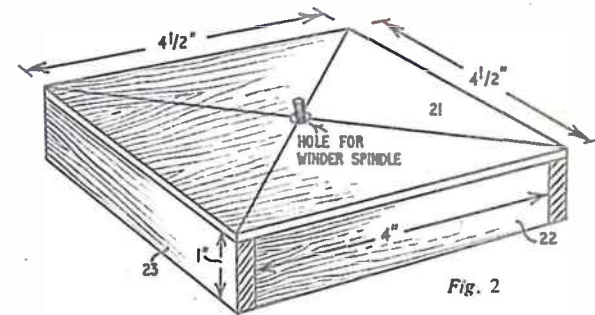

Fig. 2
The box in which the musical movement is contained is made up from five pieces of wood (Fig. 2). The four sides (22 and 23) are of 1/4 in. thick wood, and the top (21) is 1/4 in. thick. Pin and glue these together. The hole for the winder spindle must be in the centre of piece 21, and this centre is determined by drawing diagonals (Fig. 2).